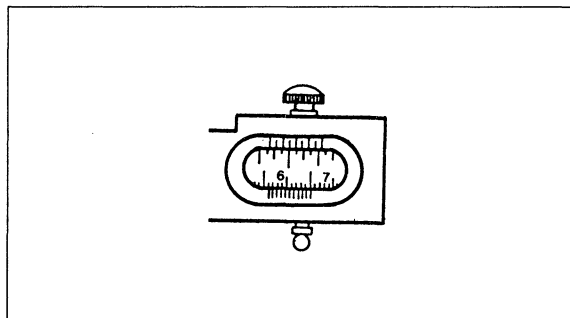

Fig. 4 ► 10.
10. Read off the vernier setting shown in fig. 4: